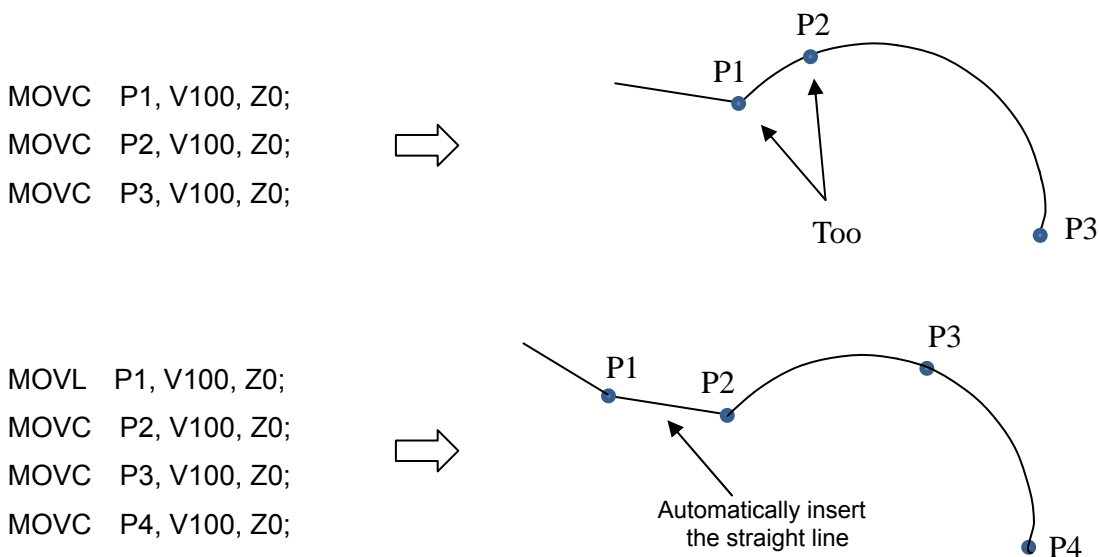

Fig. 4-11 Arc path
1. When selecting the teaching point in the arc command, it is necessary to keep away from two adjacent points; otherwise, the path accuracy of the arc will descend (Refer to the Fig. 4-11).
2. When arc start is not overlapped with the destination point of last movement command, the system will move to the arc start form the destination point by linear method (Refer to Fig. 4-11).